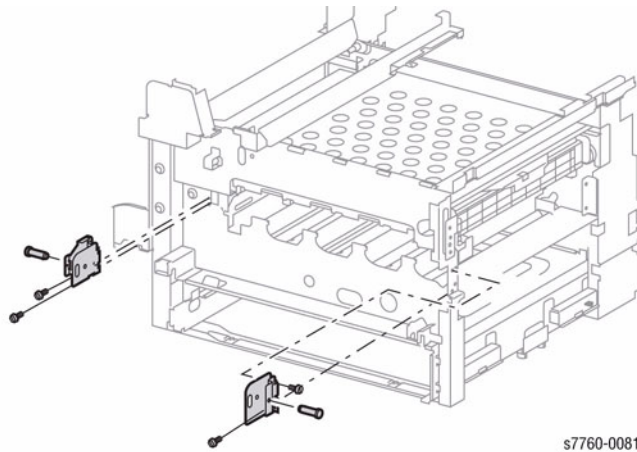

Figure 1 Removing Left Hinge/Right Hinge
11. Remove the 4 screws and remove the Left and Right Hinges (Figure 1).